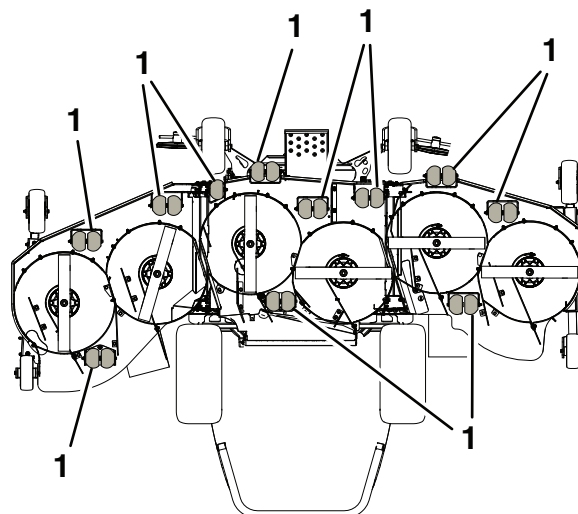

**Figure 31**
5. Place the rollers in 1 of the positions shown in Figure 31.